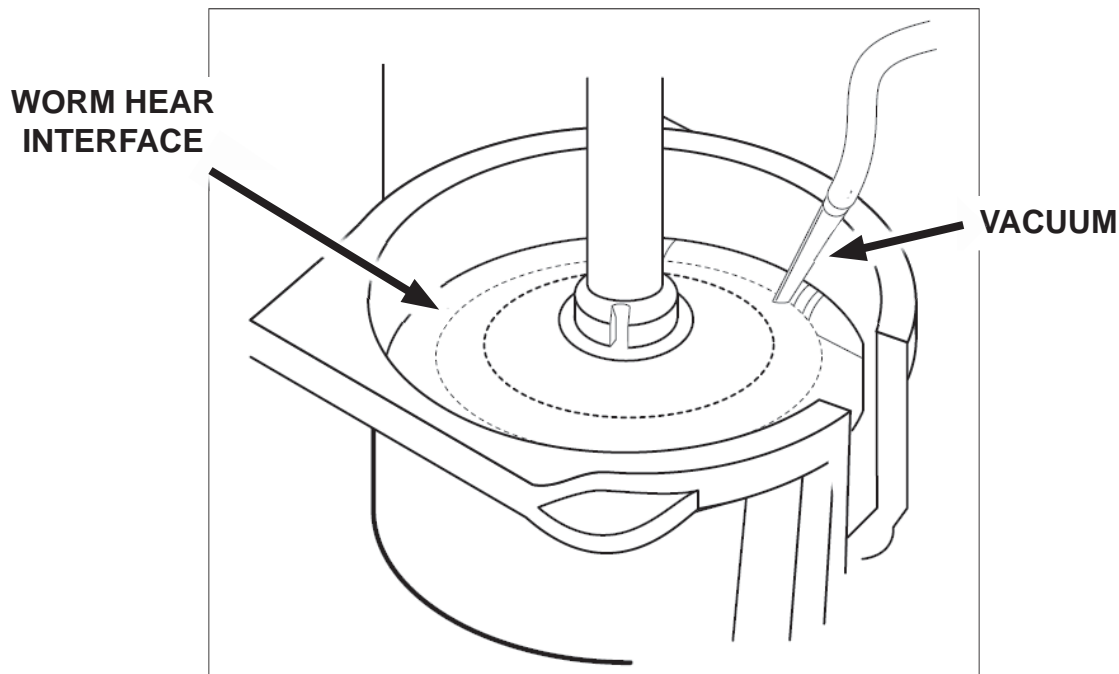

FIGURE 15
21. Vacuum surface of gear face to remove any remaining contamination. Thoroughly vacuum the worm-worm gear interface. See Figure 15.